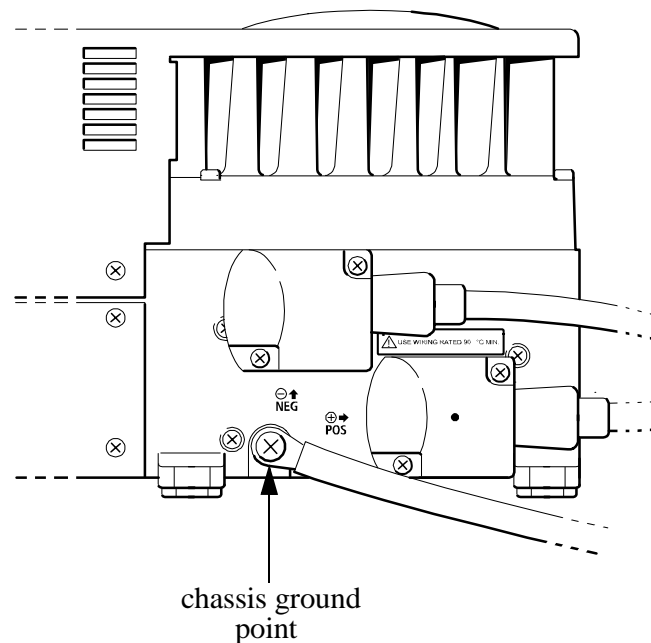

Figure 9 Completed DC Wiring and DC Grounding
The completed DC terminal wiring with covers is shown in Figure 9.
1. Using the appropriate screwdriver, loosen the screw on the chassis ground point shown in Figure 9.